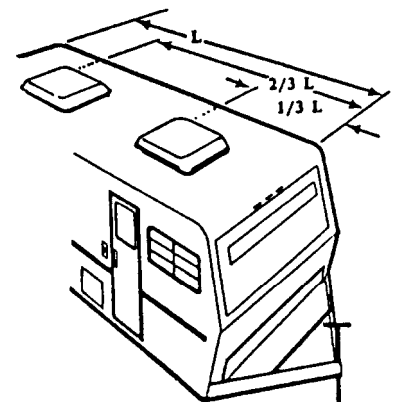

FIG. 3.A.2
- B. Many air conditioners can be installed at existing roof vent openings. These openings may be larger or smaller than 355 x 355 mm and will need modification. (FIG. 3.B)